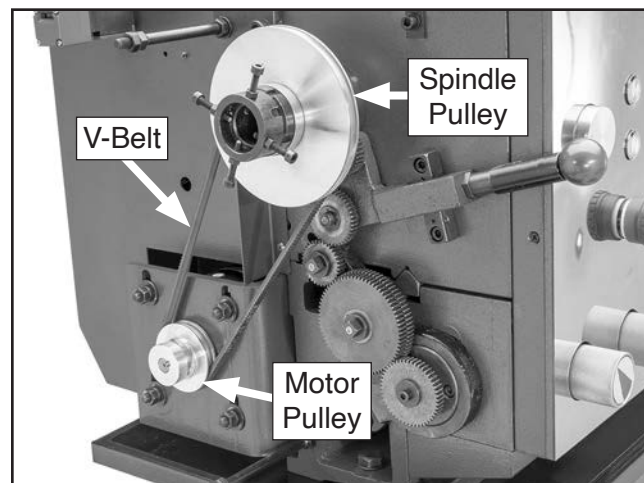

Figure 72. Location of V-belt and pulleys.
This machine has two speed ranges: a low speed range that operates between 100–1100 RPM, and a high speed range that operates between 200–2200 RPM. The speed range is determined by how the V-belt is installed on the motor and spindle pulleys (see **Figure 72**).
5. Move V-belt onto desired sheaves on motor and spindle pulleys (see **Figures 72–73** on **Page 52**).